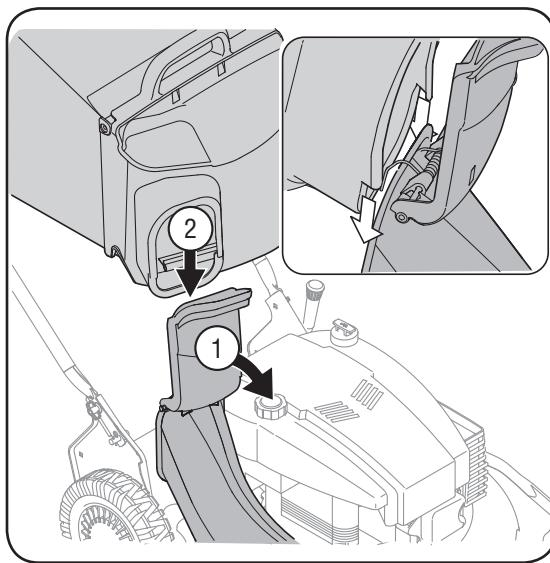

Figure 7
- c. Lift flap and slide bag onto adapter. See Figure 7.